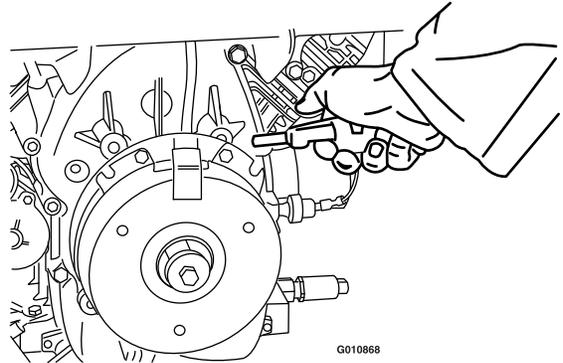

Figure 76
3. Using an air compressor, blow out any debris from under the brake pole and around the brake spacers (Figure 76).